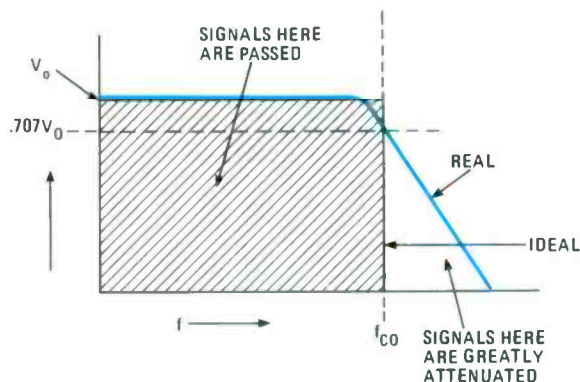

Fig. 1—This frequency response curve is for a low-pass filter. It shows how the output of the filter drops dramatically after the cut-off frequency.
A low-pass filter allows signals with frequencies lower than a designated cut-off frequency to pass, but will highly attenuate signals above the cut-off frequency. Figure 1 shows the response curve of an ideal low-pass filter. This curve is a plot of the output voltage ( $V_O$ ) vs. frequency. Note the sharp drop-off in output at the cut-off frequency ( $f_{CO}$ ). Frequencies above that point are effectively eliminated.
characteristics. Practical filters do not have such rapid or abrupt attenuation at the cut-off. Instead, the attenuation increases gradually with frequency. Figure 1 also shows the response curve of a real low-pass filter. The cut-off point is that frequency where the output voltage drops to 70.7% of the output voltage ( $.707V_O$ ) at zero frequency (DC). Beyond the cut-off frequency, the attenuation increases linearly.